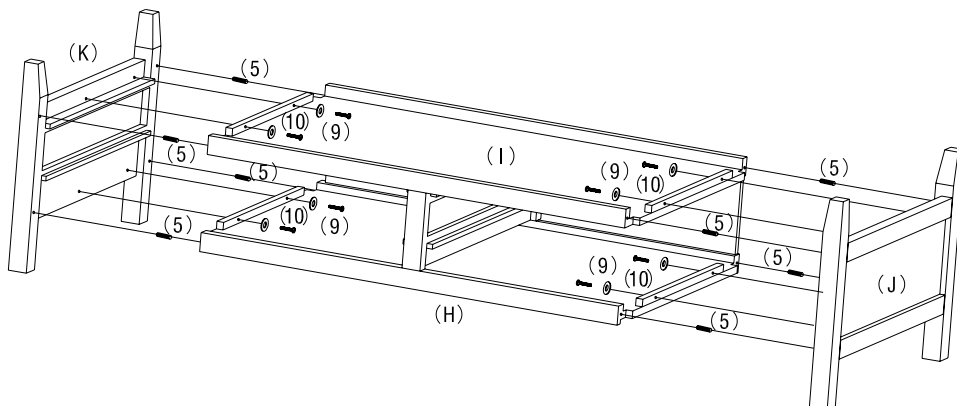

FIGURE 6
6. INSERT LARGE WOOD DOWELS (5) INTO PREDRILLED HOLES ON SIDE FRAMES (J, K) AND FIT INTO CORRESPONDING HOLES ON ENDS OF PARTS (H, I). INSERT LARGE MACHINE SCREWS (9) THROUGH WASHERS (10), PREDRILLED HOLES ON ENDS OF PARTS (H, I) AND TIGHTEN INTO PRETHREADED HOLES ON SIDE FRAMES (J, K). (AS SHOWN IN FIGURE 6)